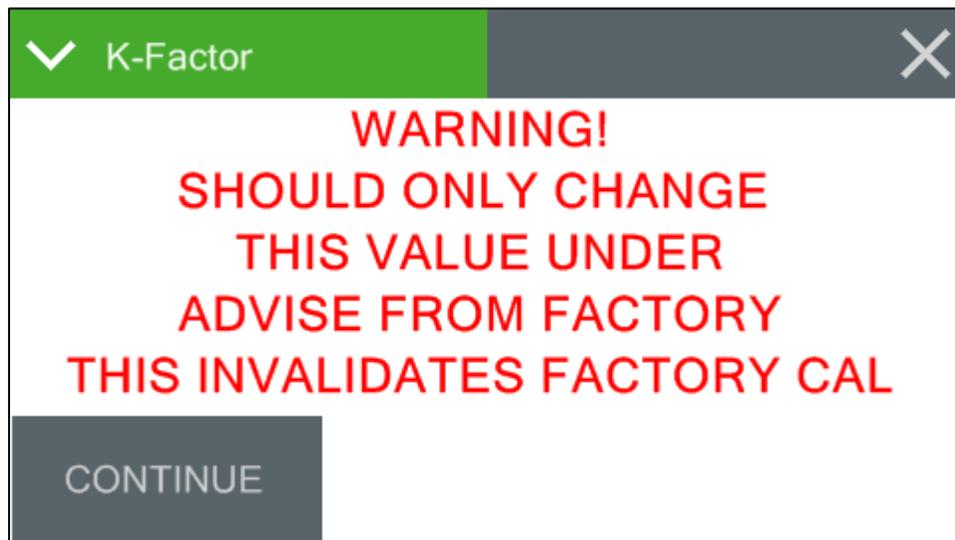

Figure AR-25. BAM 1022 K-Factor Warning
10. Request the operator to press the ADVANCED button at the bottom of the screen to proceed with obtaining the K-Factor. The following screen, Figure AR-25, will appear.